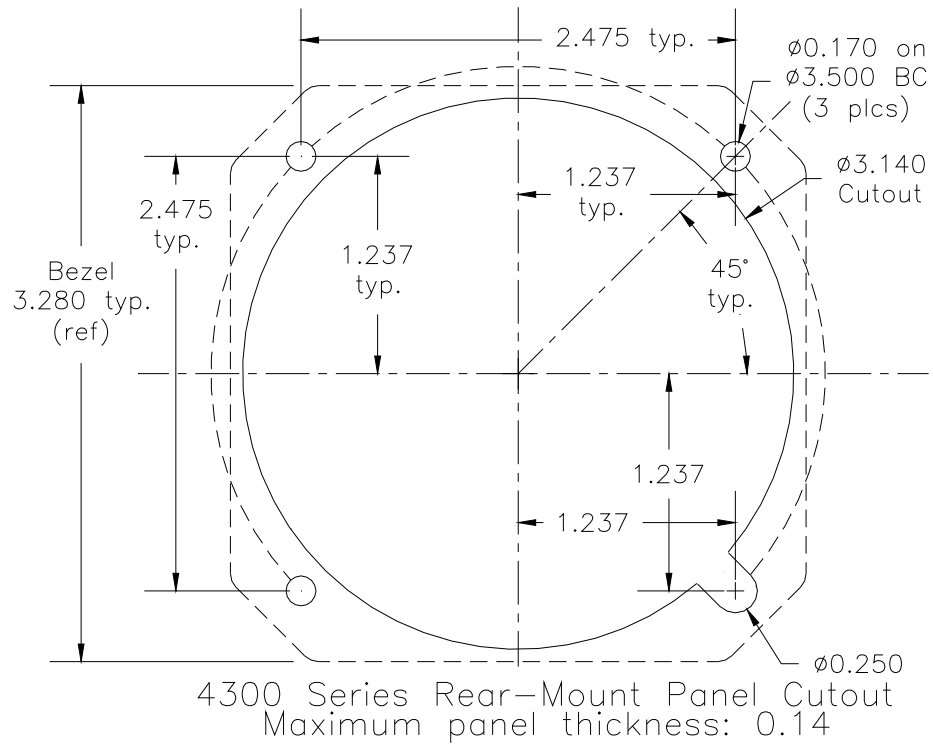

Figure 2.5: Panel Cutout Dimensions
- B. Ensure the available instrument panel cutout meets the requirements of the indicator. See Figures 2.5 and 2.6 for details.